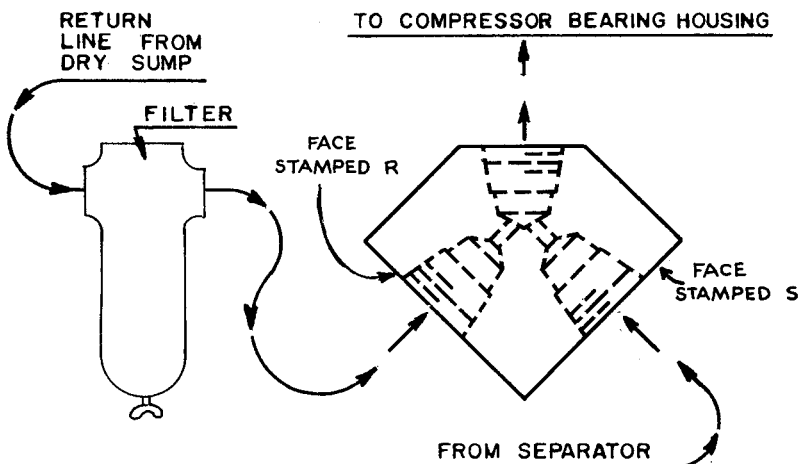

FIGURE 14. – OIL RETURN ORIFICE BLOCK
Oil carry-over may also be caused by oil that foams or oil return malfunction. When oil carry-over occurs, inspect the separator only after it is determined that the oil return lines are not the cause. Refer to "Oil Return" and Figure 14.
**OIL RETURN** (Figure 14) – Two lines return oil from the separator system to the compressor oil system through an orifice block which is piped to the compressor bearing housing. Orifice block face stamped "R" contains a 1/16" orifice and is connected to the return line from the dry sump portion of the oil reservoir. Orifice block face stamped "S" contains a 3/32" orifice and is connected to line from the oil separator. The line from the dry sump has a filter which should be drained daily and cleaned at each oil change.